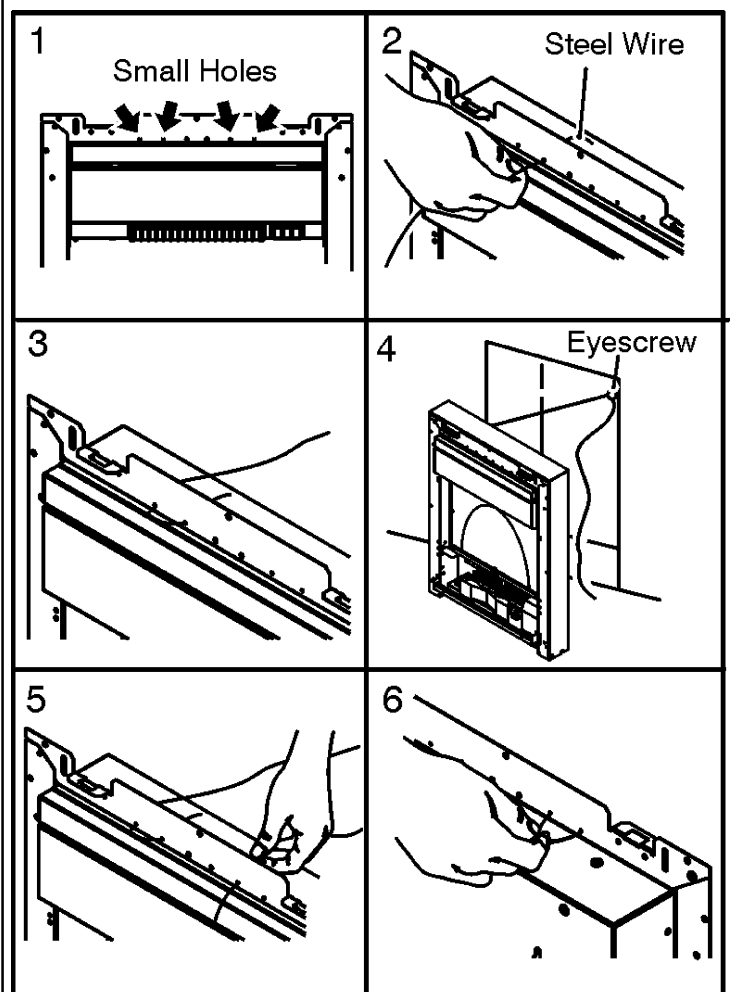

Figure 6. Steel wire fixing
7. At the top of the heater there are four small holes, two each side of the heater (See figure 6- Item 1). From the front of the heater, thread about 50mm (2 inches) of the steel wire into the inside small hole on the left side of the heater (See figure 6 - item 2).
8. Thread the other end of the wire through the remaining small hole on the left hand side of the heater. Continue to push the wire through this hole until there is only a small loop of wire at the front of the heater (See figure 6 - item 3).
9. At the back of the heater there will be a long piece and a short piece of wire coming through the two holes. Hold the short piece and give the long piece a gentle tug. This will secure the steel wire. Take the long piece and thread this through the eyescrew in the back of the fireplace opening (See figure 6 - item 4).
small hole on the right hand side of the heater (See figure 6 - item 5).
**II.** Locate the heater in the fireplace opening, then from the front of the heater, gently pull the steel wire on the right hand side to gather up the excess until the heater is secure. Thread the wire through the remaining small hole to lock the wire and heater in place (See figure 6 - item 6).